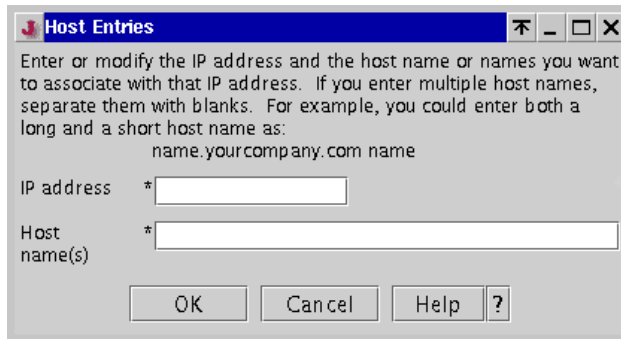

Figure 4-9 Host Entries window
- To add a host entry, click **New**. The Host Entries window opens, as shown in Figure 4-9 on page 88. Enter the IP address and host name, then click **OK**.